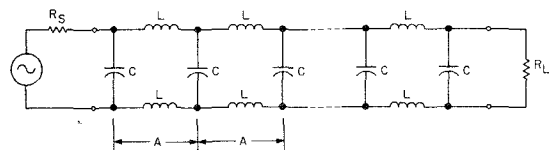

Fig. 1. Schematic representation of a transmission line.
el, we find that the transmission line can be modeled as a complex circuit having both distributed inductance (L) and distributed capacitance (C). Fig. 1 shows an equivalent circuit. If dimension "A" in Fig. 1 is unit length, then L is the inductance per unit of length and C is the capacitance per unit of length. There is also a source impedance,  $R_S$ , which is the transmitter output impedance, and a load impedance,  $R_L$ , which is the antenna radiation resistance.